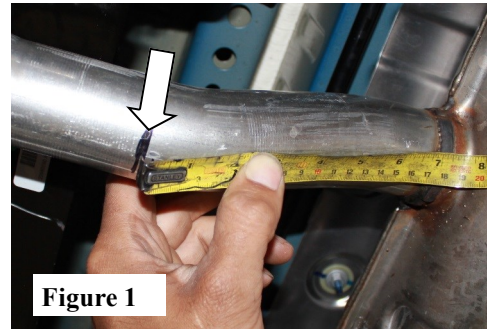

Figure 1
1. Measure and mark a cut-line 7" from rear muffler on left and right side factory pipes. (See Fig. 1)